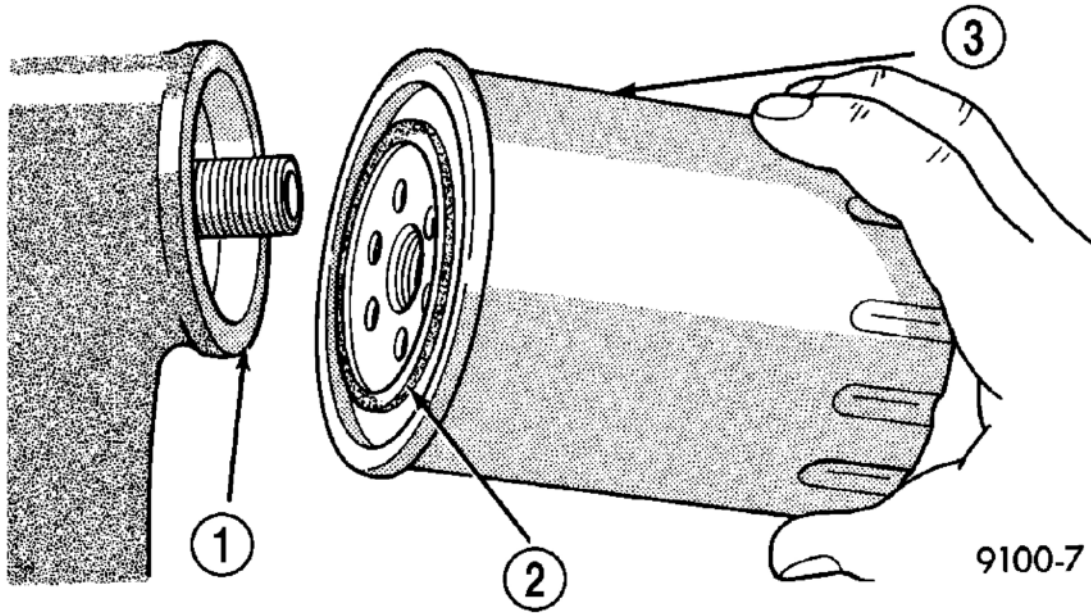

Fig. 176: Oil Filter Sealing Surface - Typical
1. Lightly lubricate oil filter gasket (2) with engine oil.
2. Thread filter onto adapter nipple. When gasket makes contact with sealing surface, hand tighten filter one half turn, or 180°, do not over tighten. See **Fig. 176**.